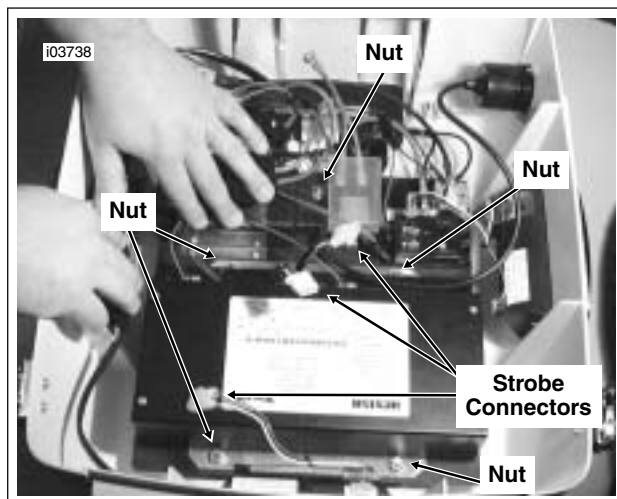

Figure 8-39. Install Power Supply Mounting Plate and Reconnect Strobe Heads
18. See Figure 8-39. Reposition power supply onto mounting plate and reinstall the three nuts removed in step 3 to provide access for mounting Tour-Pak. Obtain two more nuts from kit and install to remaining mounting plate studs. Tighten nuts to 80 **in-lbs** (9.0 Nm).